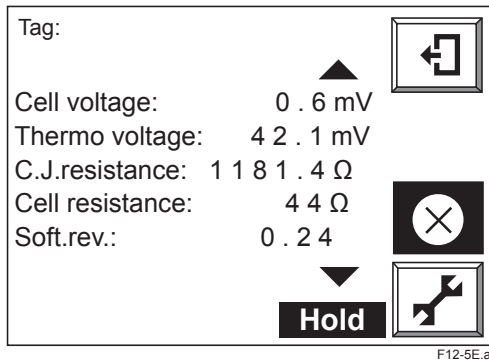

Figure 12.5 Detailed-data Display
- (1) Check that the following have been set up correctly. If not, correct them. Then, recalibrate.
- (2) If the alarm is not generated during the recalibration, improper calibration conditions are considered as the cause of the alarm generated in the previous calibration. In this case, no particular restoration is necessary.
- (3) If the alarm is generated again during the recalibration, deterioration of or damage to the sensor assembly is considered as the cause of the alarm. It is necessary to replace the sensor (cell) with a new one. Before replacement, carry out the following. Check the cell voltages when the zero gas and span gas are introduced.
- b. When the [▼] key is pressed once, the cell voltage should be indicated on the top line (Figure 12.5).